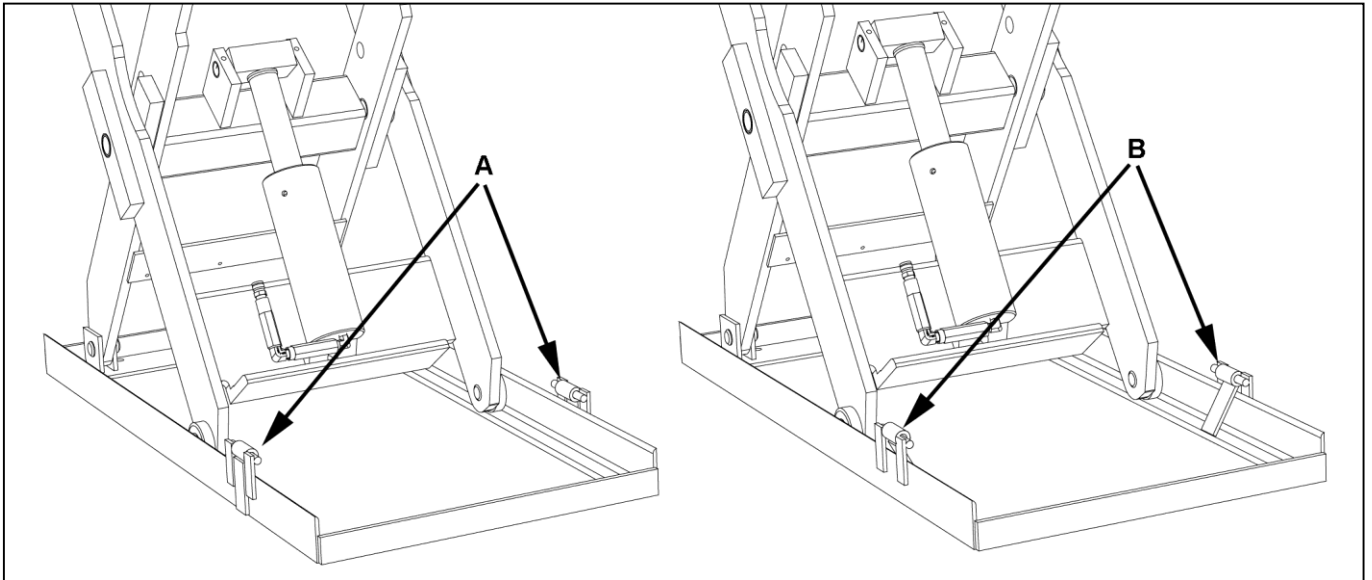

Figure 6.1
3. The lift will be provided with two (2) maintenance devices stored on the outside of the base frame. The devices must be securely placed inside the base frame (B) and thus in the roller path of the lift (**See Figure 6.1 or 6.2**).